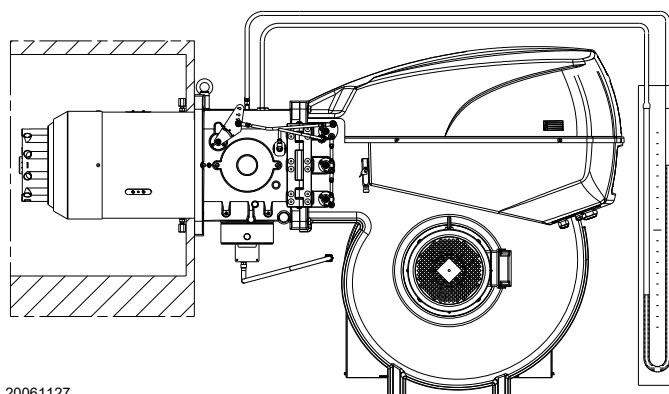

Fig. 29
- Fit a U-type pressure gauge or a differential pressure gauge (Fig. 29), with socket (+) on the gas pressure of the pipe coupling and (-) in the combustion chamber.
The arrival of gas at the pipe coupling is indicated by the U-type pressure gauge (Fig. 29).